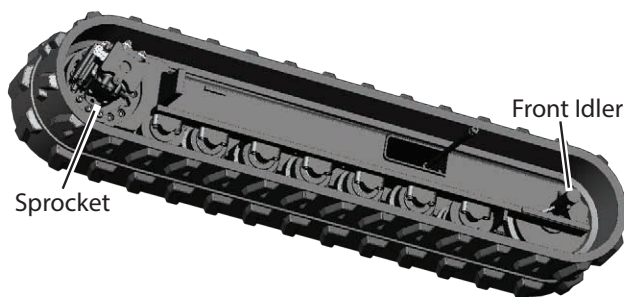

Figure 5-31. Front Idler
Follow this procedure for replacing the front idler (Figure 5-31):
1. Follow Steps 1 - 4 in the previous section. The track tension cylinder is located behind the front idler. (Figure 5-31)